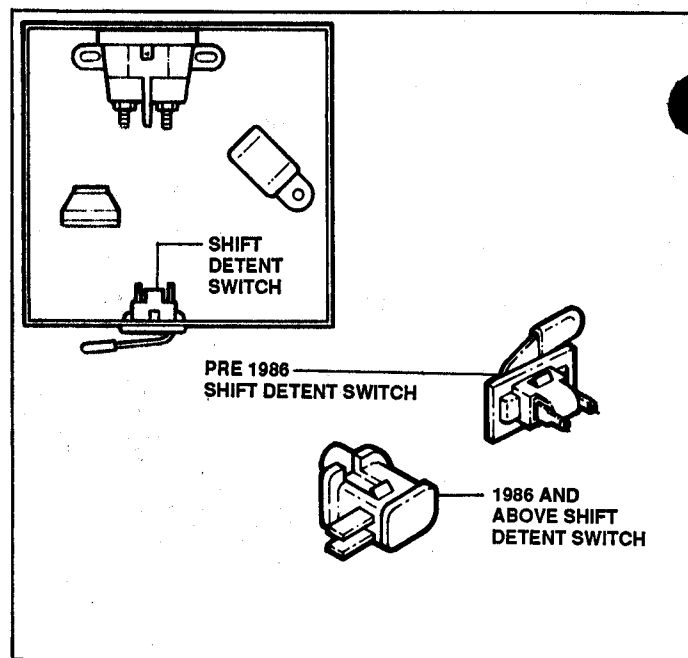

FIGURE 6.14
1. Pre-1986 models of the **SNAPPER 4,5, 6** and **Extra Tough Rear Engine Riders** incorporate a different SHIFT DETENT SWITCH than 1986 and above models. See Figure 6.14.